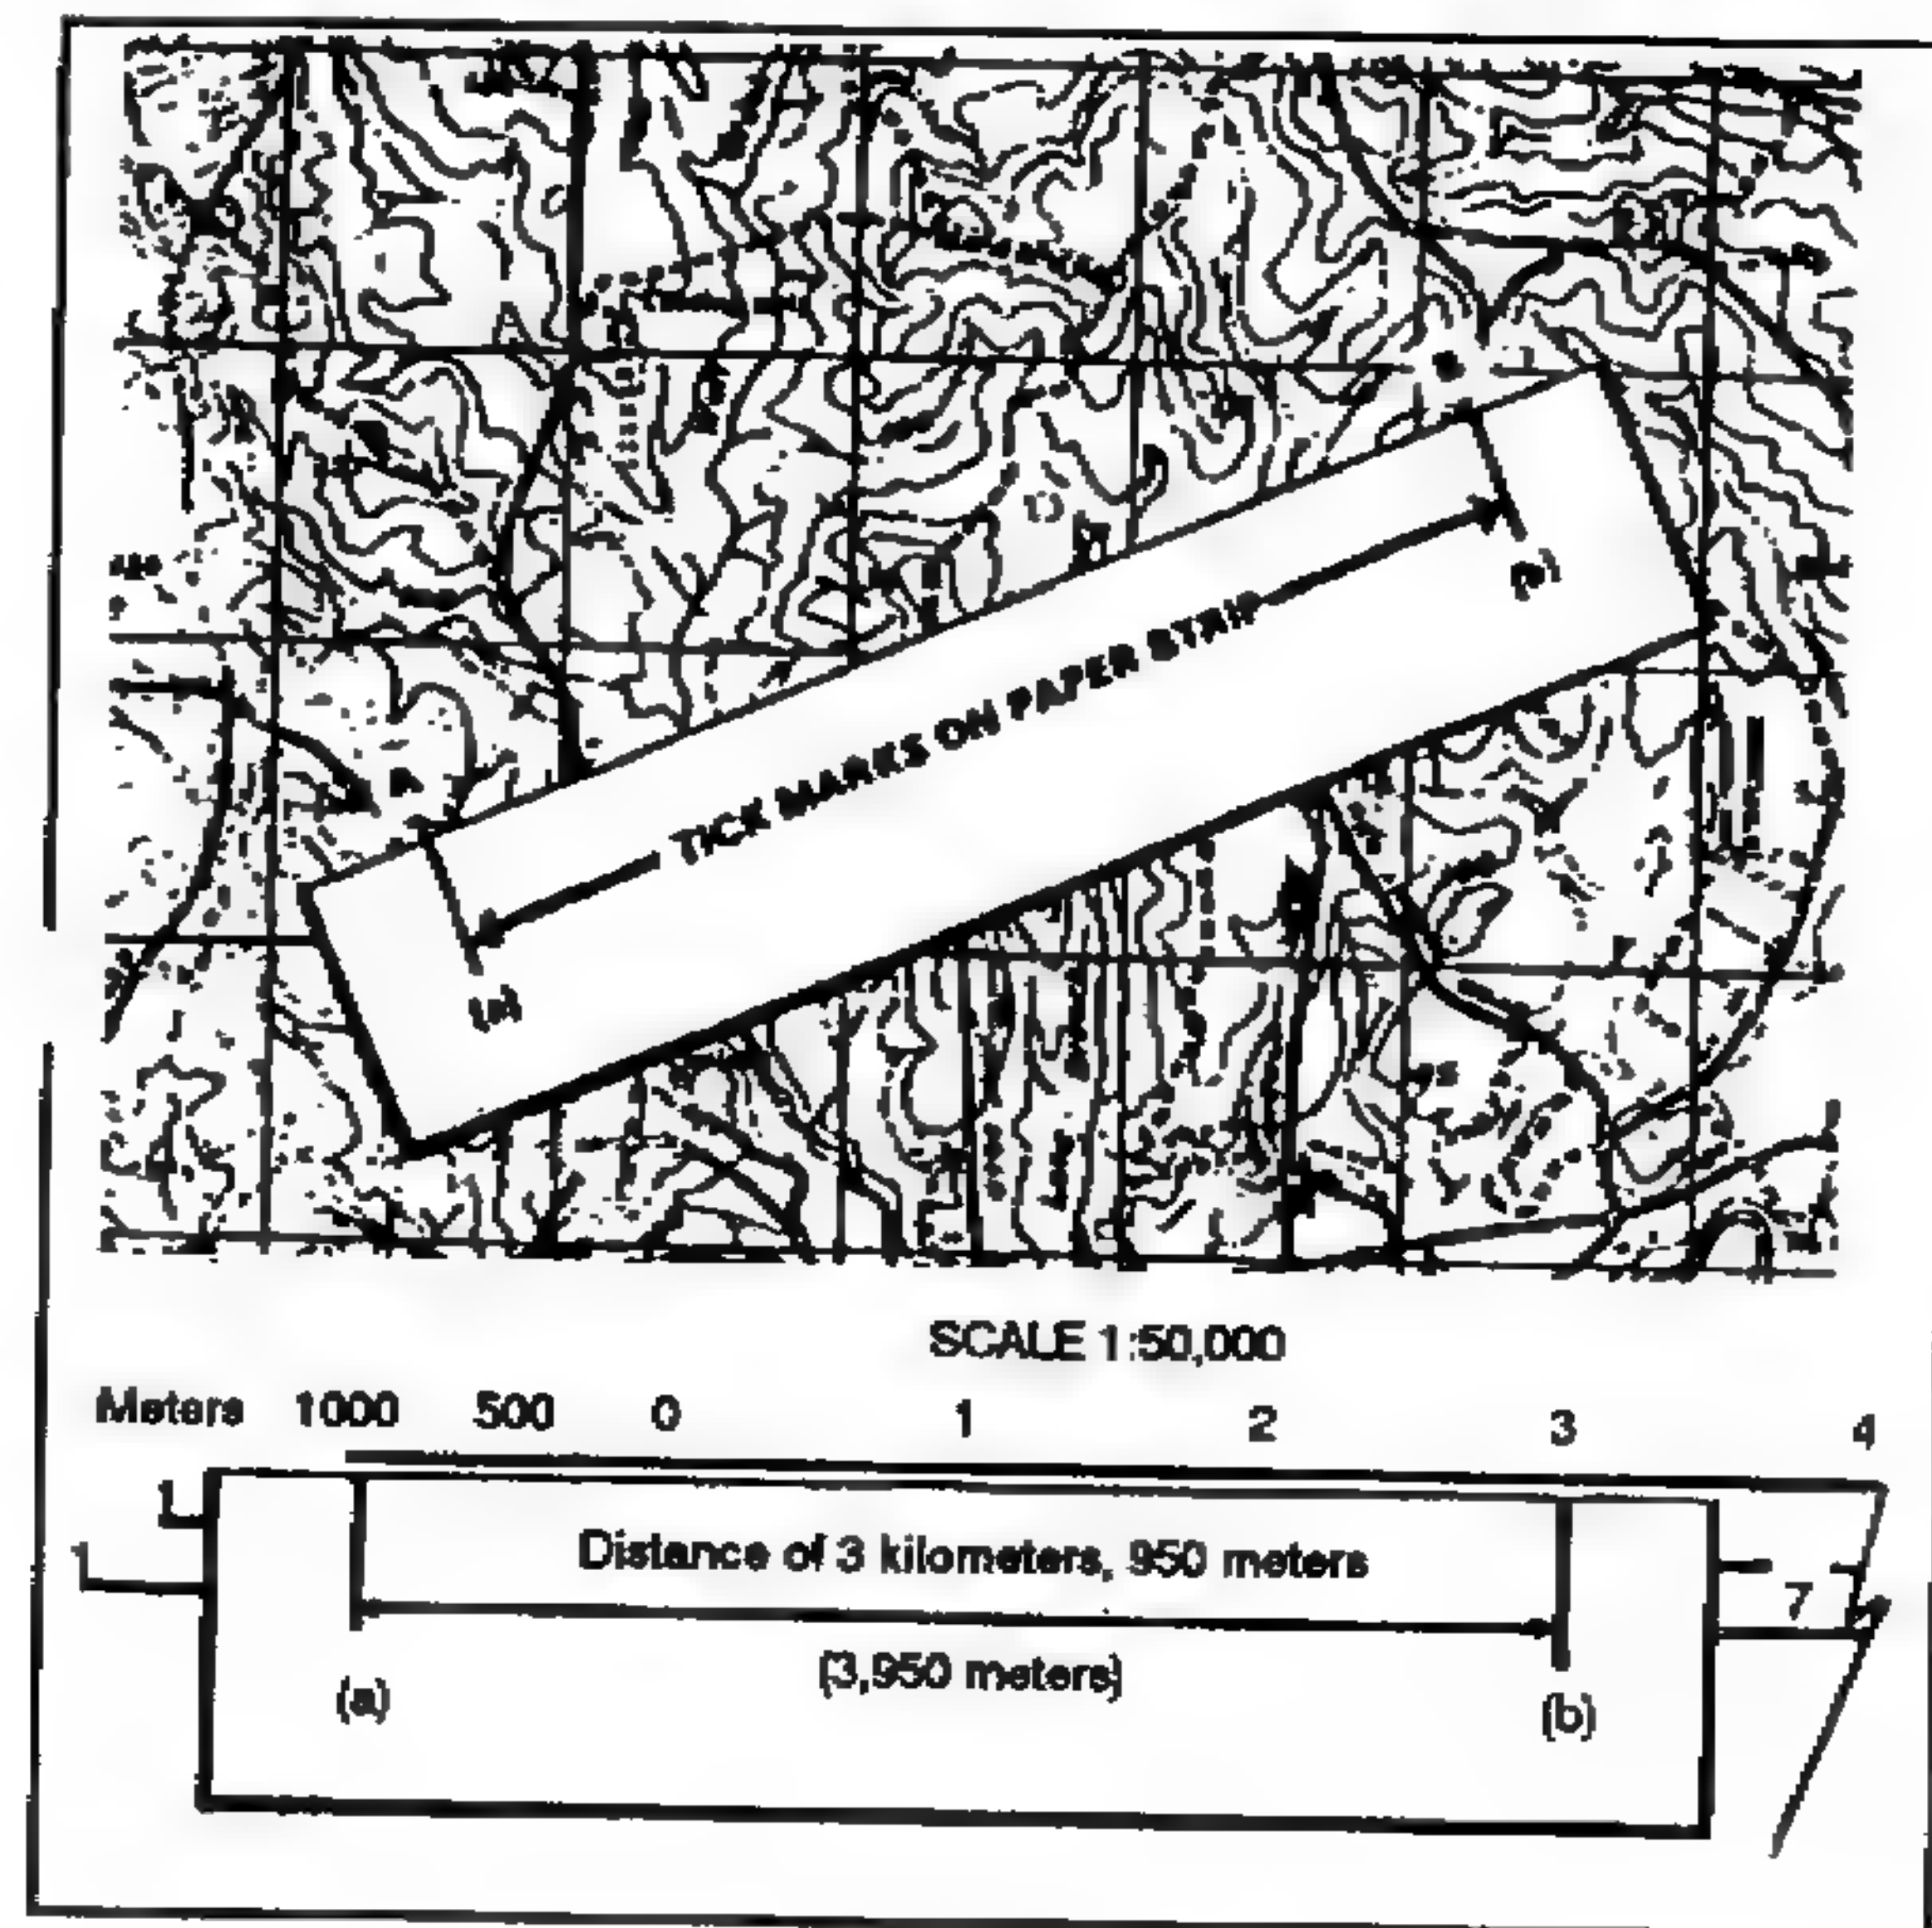

Figure 4-17. Paper-strip method.
a. Paper-Strip Method. The paper-strip method (Figure 4-17) is useful when determining longer distances (1,000 meters plus). When using this method, the sniper places the edge of a strip of paper on the map and